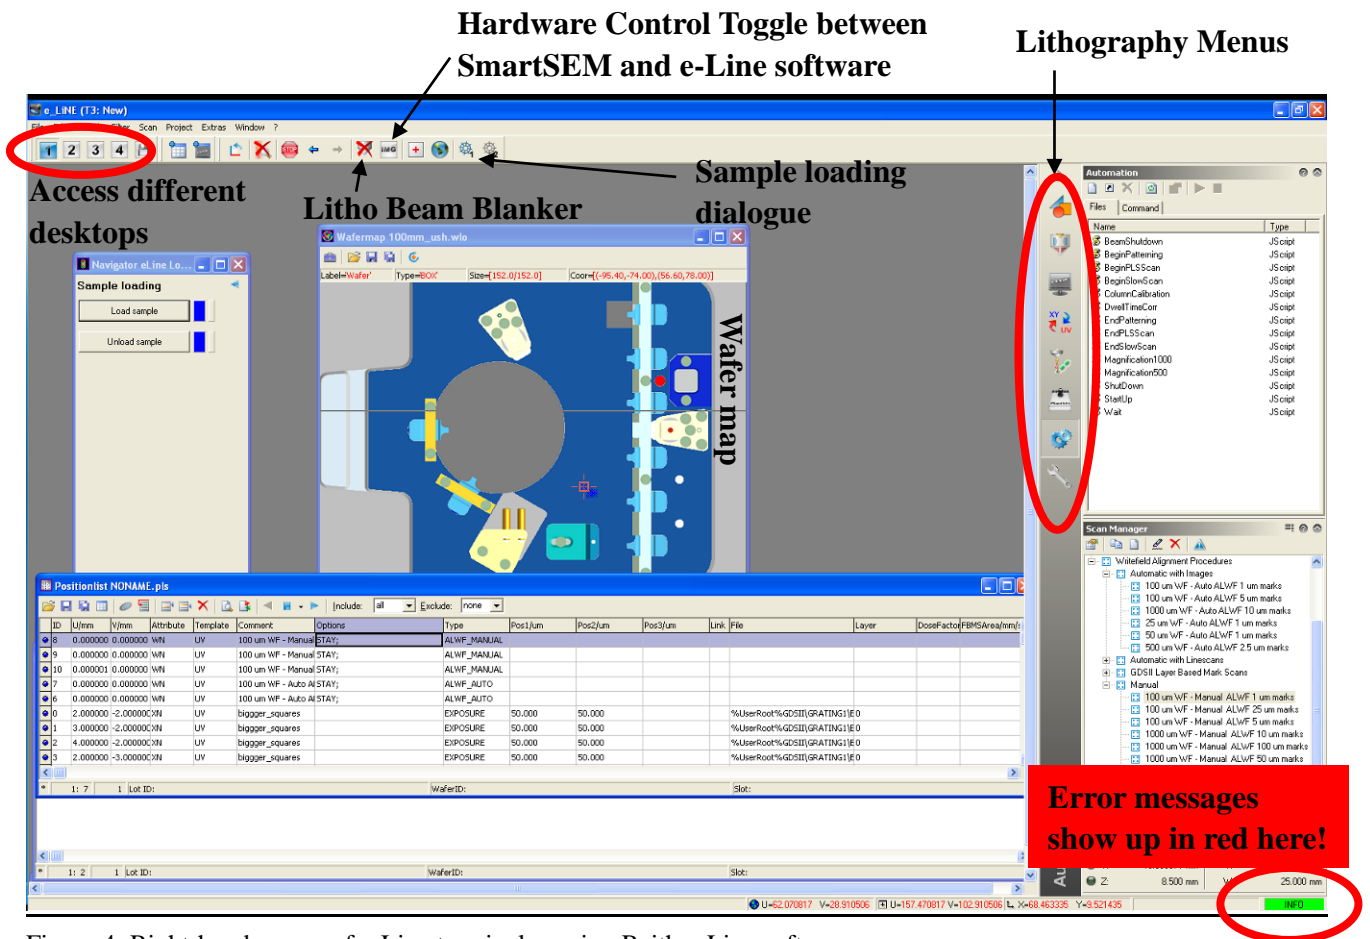

Figure 4: Right-hand screen of e-Line terminal running Raith e-Line software.
Figure 4 shows the basic functionality of the Raith e-Line software. Of course there is much more, but this should point you to the important parts.
4. To initiate the load procedure, go to the "Sample loading" screen, available via the left-most cog-wheel icon in the menu bar of the Raith e-Line software (see figure 4):
your sample later, it is possible to save these parameters and load them using the second lithography menu (figure 4).
10. Make sure the beam is not blanked. There are two beam-blankers: one controlled by the Smart SEM software, the other by the Raith e-Line software. At this stage usually the e-line-software blanker is activated. Deactivate it by clicking the button in the icon bar (see figure 4).
4. Back in the e-Line software go to the 'Beam current' tab in the dose lithography menu (5th lithography menu from the top in figure 4). Choose <current position> in the drop-down menu. Then click 'Measure'. Repeat a few times to see if current is stable. It should not change more than by 0.1 pA. This measurement will be later used to calculate the dwell-time of the beam during the exposure.